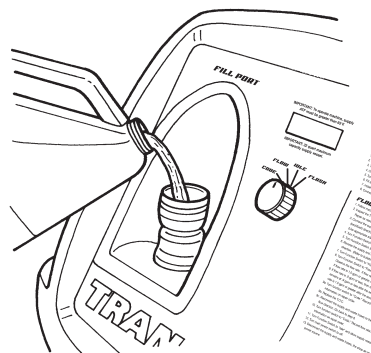

**Figure 3**
3. Connect an air hose from your compressed air supply to the quick-disconnect on the rear panel marked SUPPLY AIR. See **Figure 3**.